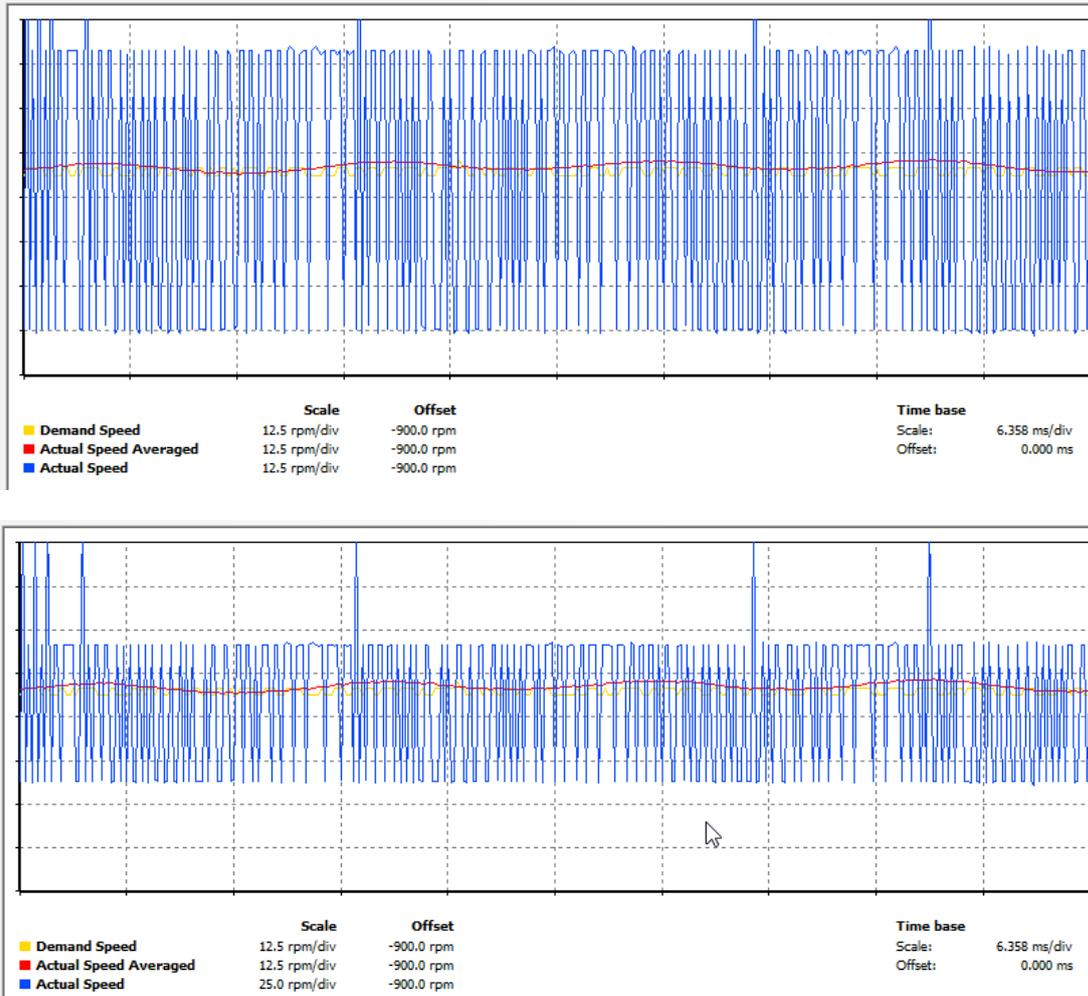

Figure 7: Speed signals on ESCON Data Recorder.
- Step 2 Examine the signals on the Data Recorder screen. You might see a picture like in Figure 7, upper diagram. Observe the scale information at the bottom.
- Step 3 Stop the recording, click on *Actual Speed* in the *Available Curves* section on the right (What happens if you deactivate and reactivate the checkbox?). Change the Scale value of the Actual Speed to 25 rpm/div and confirm with Enter. (You can leave the Offset as it is.) The picture may now look like the lower diagram in Figure 7.